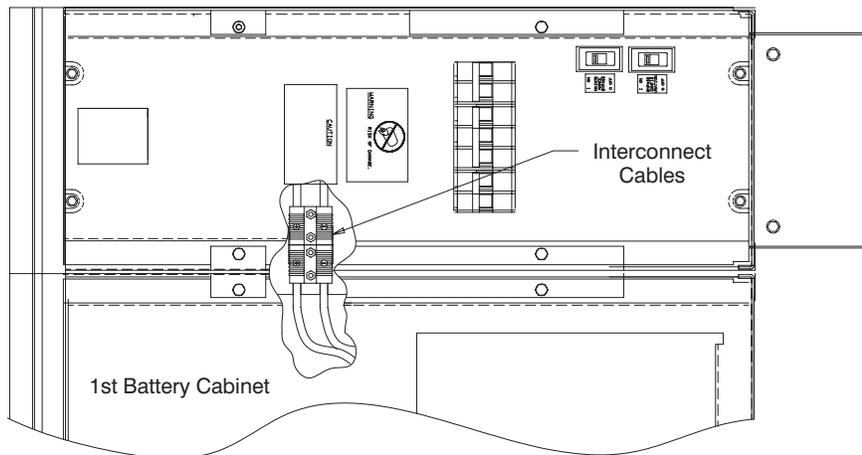

Figure 12. Connecting the UPS and Battery Cables (Top View)
14. Connect the UPS to the first battery cabinet through the top cutout in the battery cabinet (Figure 12).